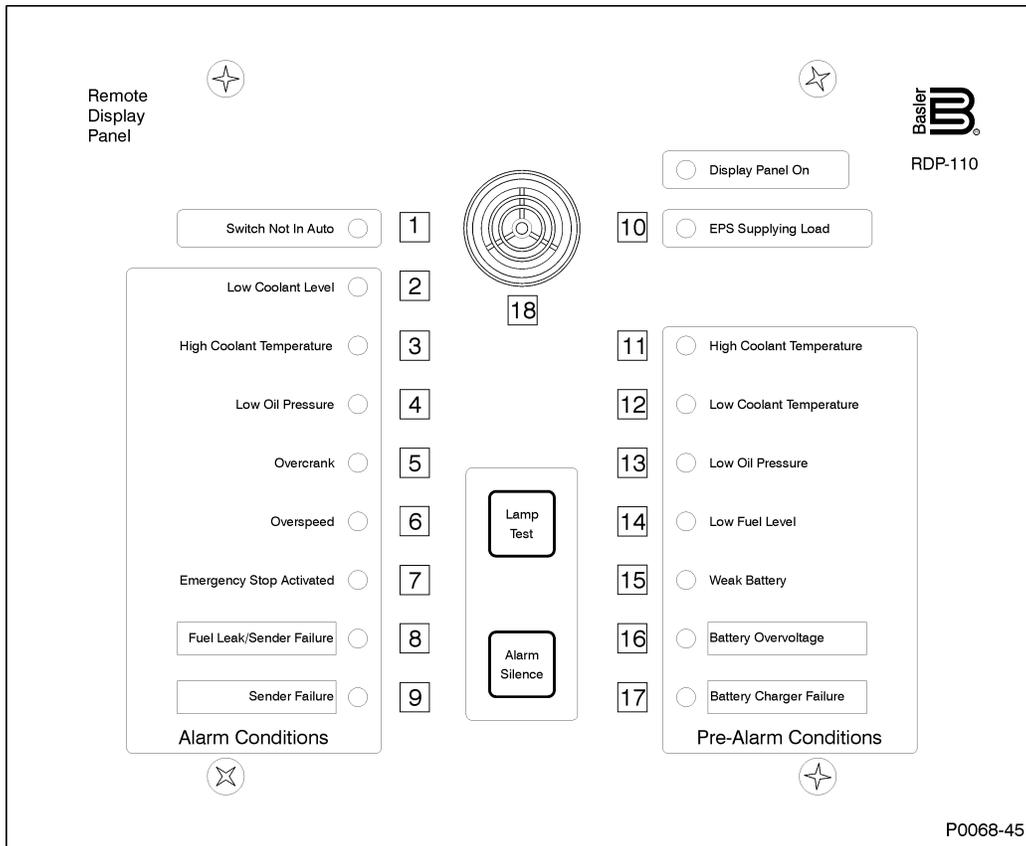

Figure 10. Test Mode Annunciation Sequence
6. Press and release the Lamp Test pushbutton. Observe that the LEDs and horn annunciate in the eighteen-step sequence indicated in Figure 10. This sequence will repeat until the Alarm Silence pushbutton is operated.